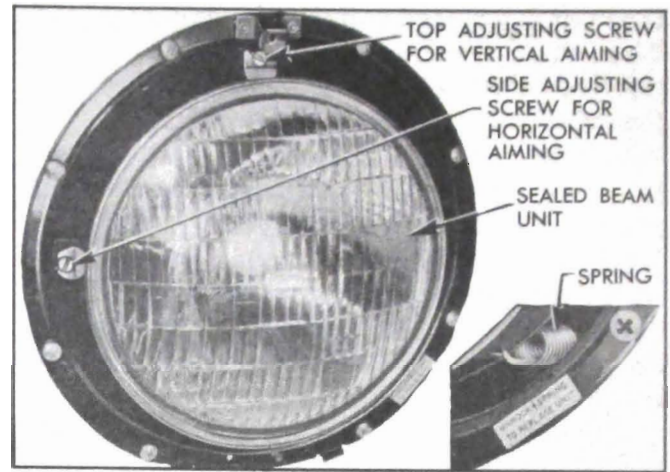

Figure 10-62—Sealed Beam Unit Mounting
2a. *On second type*, unhook the spring from retainer ring (fig. 10-62), then remove sealed beam unit and retainer ring, being careful not to disturb the two beam adjusting screws.
2. Adjust light beam up or down as required by turning the top beam adjusting screw. See figure 10-62.